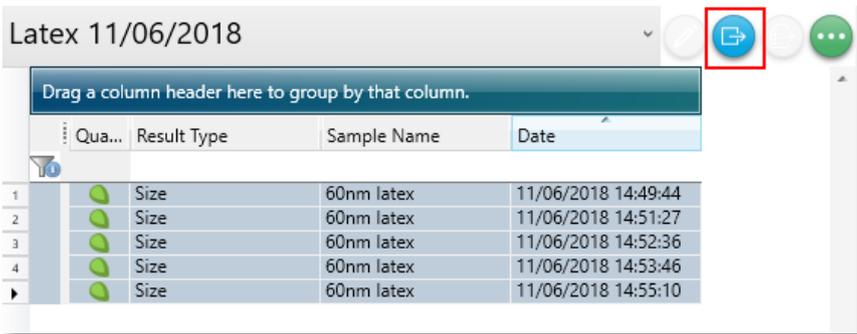

Figure 15: Exporting selected record
- Read version number (Figure 15)
In situations where the errors appear to be related to a specific record or records, the affected records can be exported from the software by selecting them and pressing the export icon, see Figure 15, and send the *.zmes file to the Malvern Panalytical team for investigation.